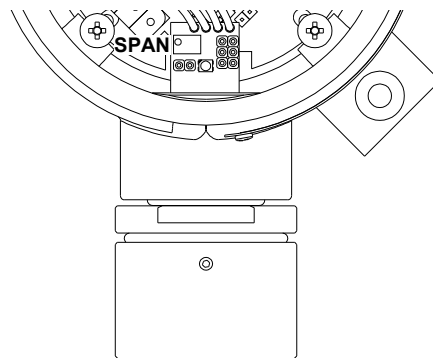

Fig. 8a: Position of the Span control on the sensor for toxic gases.
- Regulate the 'SPAN' trimmer (shown in Fig. 8a) until the multimeter shows a current equal to the one calculated with the formulas. If the operation is not successful at the first try, repeat the procedure again, putting the sensor in clean air and powered for at least 10 minutes.